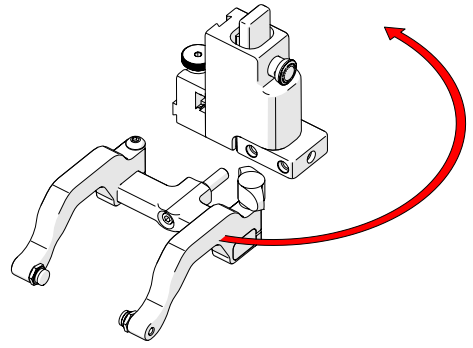

Fig. 120 - Orient to opposite side
2. Position the yoke and arms to the opposite side of the probe holder (Fig. 120).